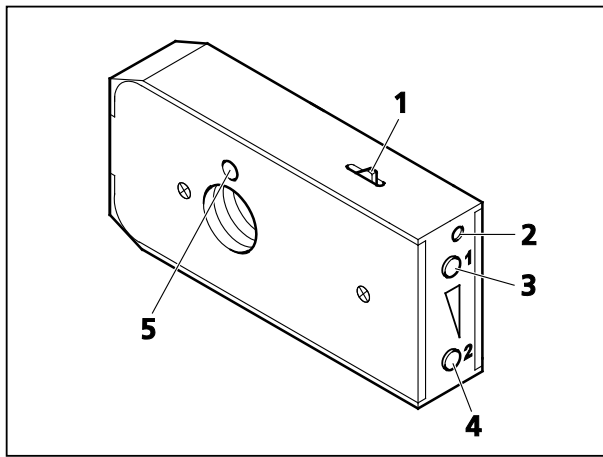

Fig. 81 Inserting/removing double filter wheel discrete mot.
- Before inserting the filter wheel module, first activate the click-stop mechanism (Fig. 81/1) by pushing it in. At the right-hand front end (Fig. 81/2) a small silver plate becomes visible.
- To remove the filter wheel module, introduce a screwdriver into the top hole (Fig. 81/2) and push in the silver plate to deactivate the click-stop mechanism. Slightly cant the screwdriver in the hole and pull the filter wheel module out of the slot.
- Adjust the desired positions of the filter wheels by pushing the top (Fig. 81/3) or the bottom button (Fig. 81/4). When the filter wheel module has been removed, the selected transmission can be read from the sight glass (Fig. 81/5). The positions of the two integrated filter wheels can be combined with each other in any configuration.